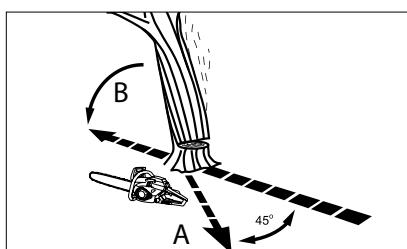

Fig. 14
Mark out your escape path (A) in advance and clear it of possible obstacles before you start cutting. The escape path must be in the direction opposite to the direction in which the tree is expected to fall (B) (fig. 14).